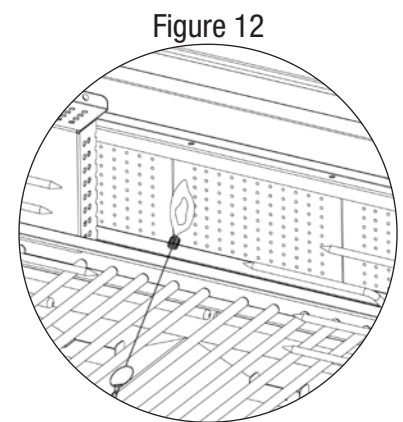

Figure 12
8. If igniter does not light burner, use a lit match secured with the lighting rod provided to light burners manually. Position the lit match near side of the burner. (Figure 12)